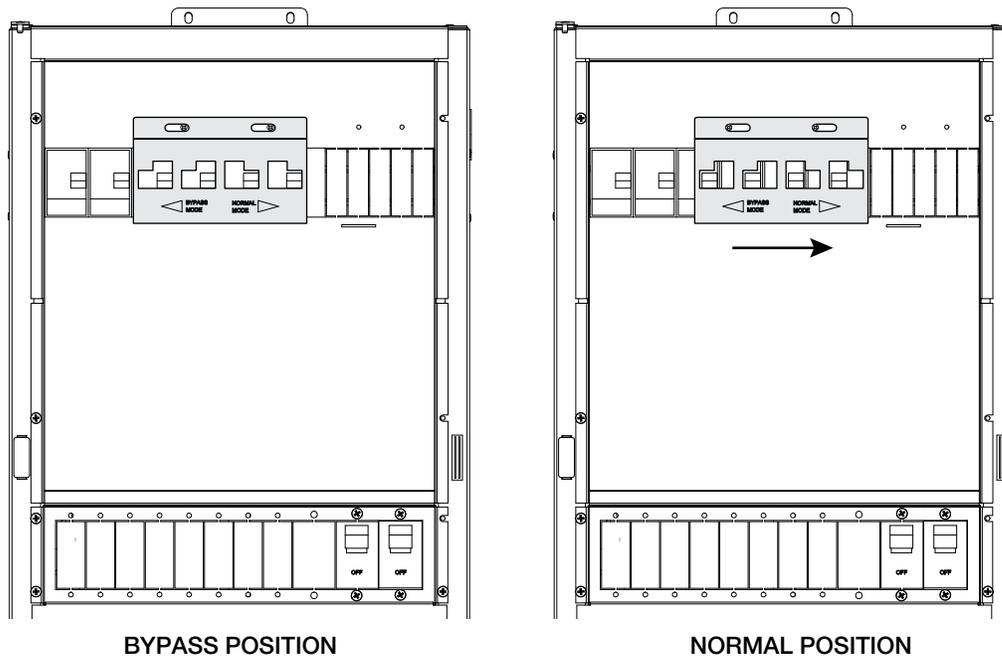

Figure 3-26 Installing the custom designed bypass interlock plate
- Install the custom designed bypass interlock plate, as shown in Figure 3-26 on page 3-44.
2. Ensure the breakers are in the down position and place the bypass interlock plate over the breakers, as shown in Figure 3-26, and secure it in place with the hardware provided.
3. To set it in Normal position, slide the bypass plate to the right, as shown in Figure 3-26.
10. Install the custom designed bypass interlock plate, as shown in Figure 3-26 on page 3-44.